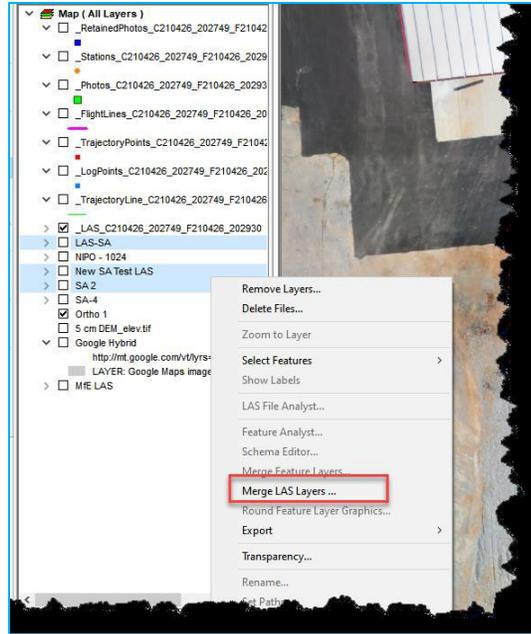
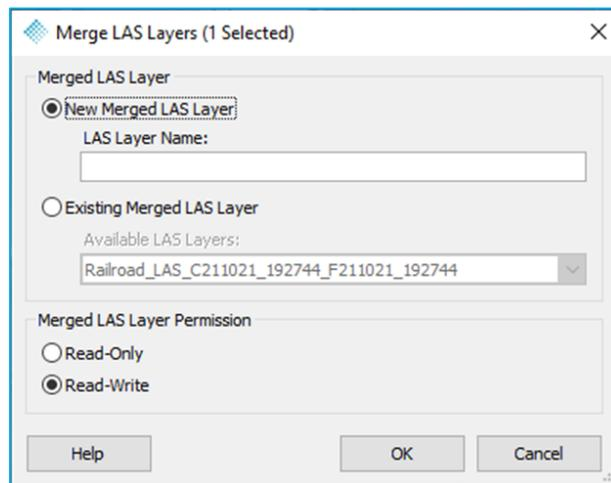

Figure 175 - Merge LAS Layers RCM Command
Figure 176 - Merge LAS Layers options dialog
- When not using Strip Adjustment or Strip Align for LP360, in the TOC, select the desired LAS Layers to be merged or copied, and use the right-click -> **Merge LAS Layers** command (Figure 175) or **Copy LAS Layers** command to open the Merge LAS Layers dialog (Figure 176) or Copy LAS Layers dialog in order to merge or copy the individual Cycle/Flight LAS layers into a single combined LAS layer before smoothing or ground classification.